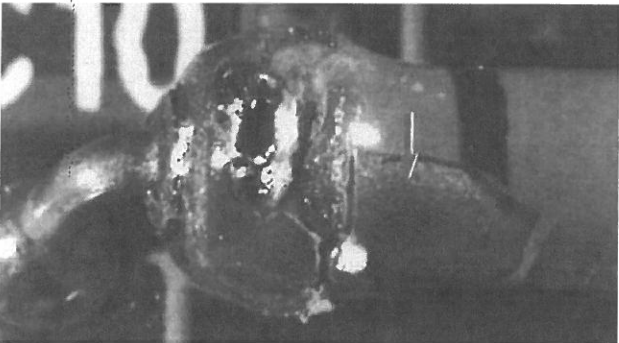

**Figure 9-16**
- Chip out or crack that enters into the seal, Figure 9-16.
- There are cracks leading from the chipout on a ceramic body component, Figure 9-16.